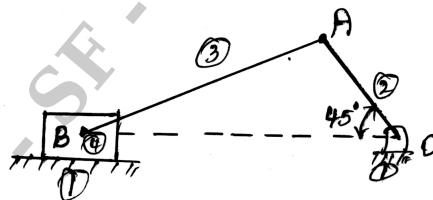

Fig Q4(b)
- b. Find all the instantaneous centres of the slider crank mechanism shown in Fig Q4(b) below and find the velocity of the slider when the crank OA rotates with an angular velocity of 10 rad/s. Also determine the angular velocity of the connecting rod. The length of the connecting rod and crank are 800mm and 240mm and the crank makes an angle of 45° from the inner dead centre.